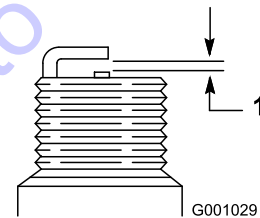

Figure 21
3. Set the air gap at 0.70 to 0.80 mm (0.028 to 0.031 inch) (Figure 21). Install the spark plug carefully by hand to avoid cross-threading.